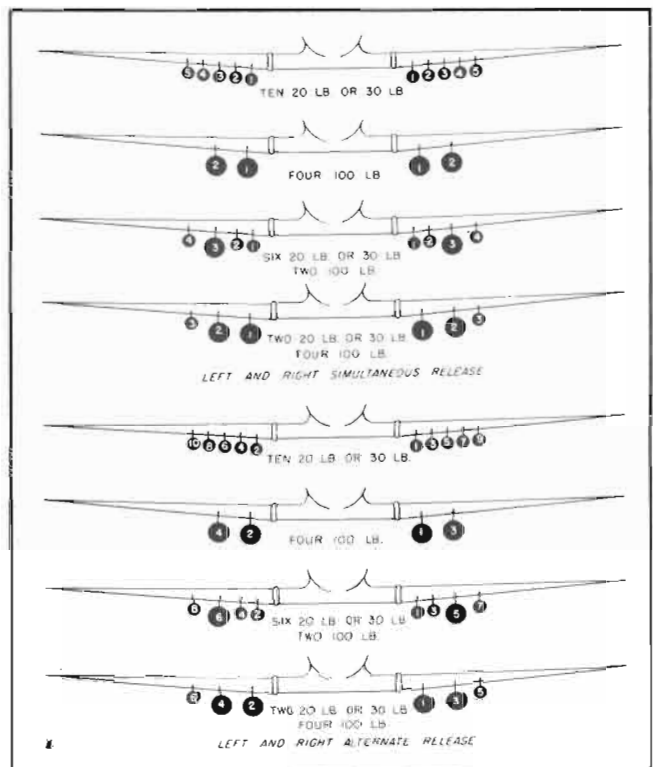

Figure 339 — Bomb Release Order Diagram
(6) TESTING.—Cock all bomb rack support hooks. With the release handle on the bomb control quadrant set at "SELECTIVE," press the firing switch on the control stick. Racks should operate as selected by the operator on the electrical control panel, and in the order indicated by figure 339.